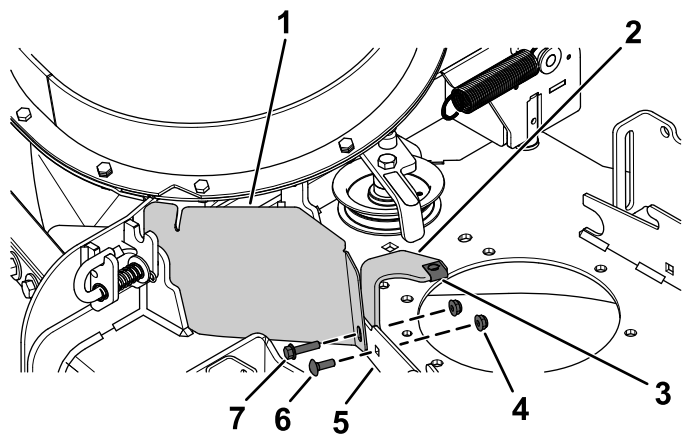

Figure 7
1. Align the holes of the CE pulley guard to the hole in the forward deflector bracket and the outboard hole in the forward deck flange (Figure 7).
2. Align the CE belt-cover bracket (if not previously installed) to the holes at the rear side of the forward deck flange (Figure 7).
3. Secure the CE pulley guard and the belt-cover bracket (if not previously installed) to the forward deck flange at the outboard hole using 1 hex-head bolt (1/4 x 1 inch) and 1 locknut (1/4 inch) as shown in Figure 7.
4. Secure the belt-cover bracket to the forward deck flange at the inboard hole using 1 carriage bolt (1/4 x 3/4 inch) and 1 locknut (1/4 inch) as shown in Figure 7.
5. Align the clip nut with the hole in the top of the CE belt-cover bracket, and push the clip nut onto the bracket (Figure 7).